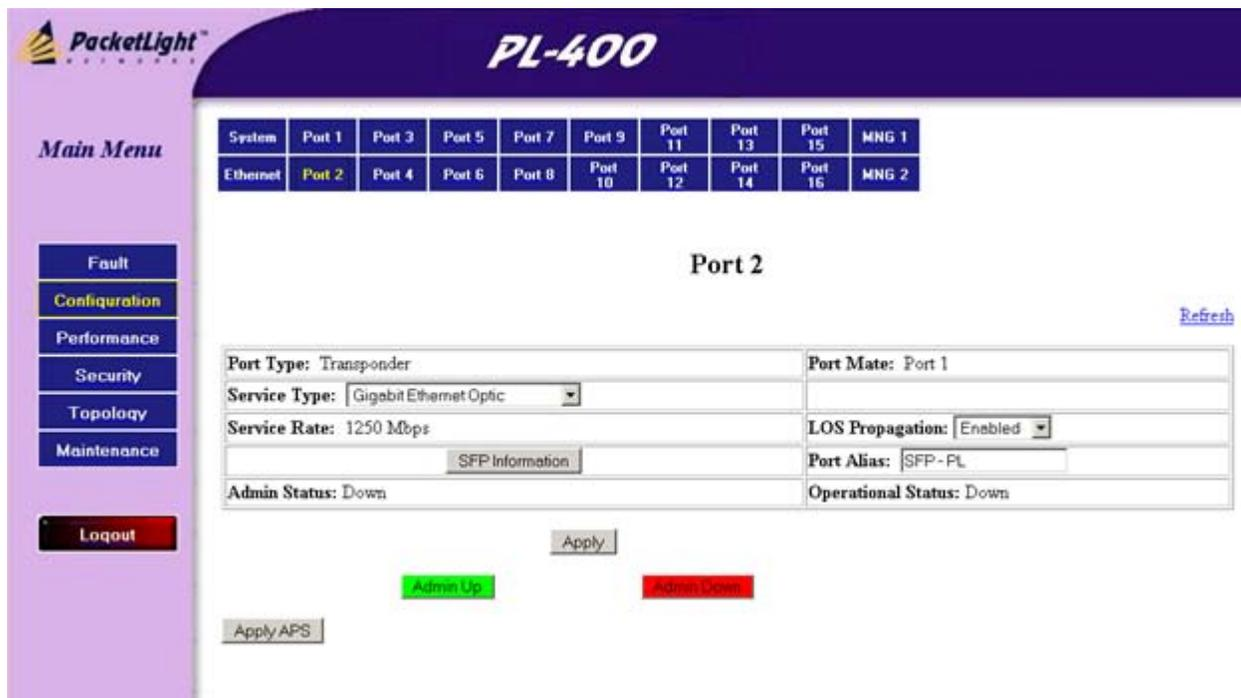

Figure 4-3. Configuration: Service Port Window
- Port 1 – Port 16 (Service/Uplink Ports) (See *Figure 4-3*. Fields available for editing are explained in *Table 4-3*.)
- MNG Port (See *Figure 4-3*. Fields available for editing are explained in *Table 4-3*.)